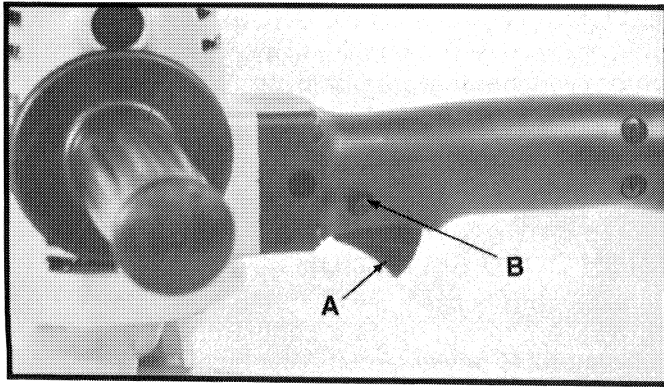

Fig. 2
A trigger switch (A) Fig. 2, with lock button (B), is conveniently located in the machine handle. To start machine, depress switch trigger (A) Fig. 2, in bottom of handle. To stop machine, release trigger. If it is desired to keep machine running without holding finger on trigger, depress trigger, push in on switch locking button (B) Fig. 2, in left side of handle, and while holding button in, release trigger. To release locking button, depress trigger and release.